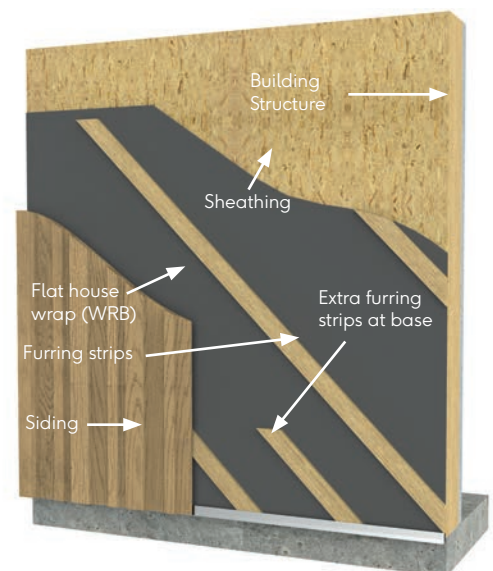

Fig. 4 - Typical wall build-up with furring strips
2. Install the furring strips at an angle, with the centers reduced to 12" or 16" respectively. (Fig.4)